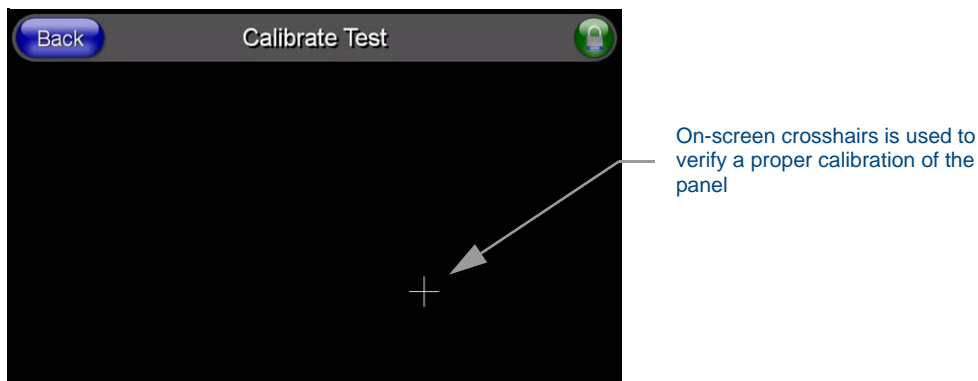

FIG. 23 Calibration Test page
1. Press and hold down the on-screen **Calibration** button for 6 seconds to enter the Calibration Test page (FIG. 23).